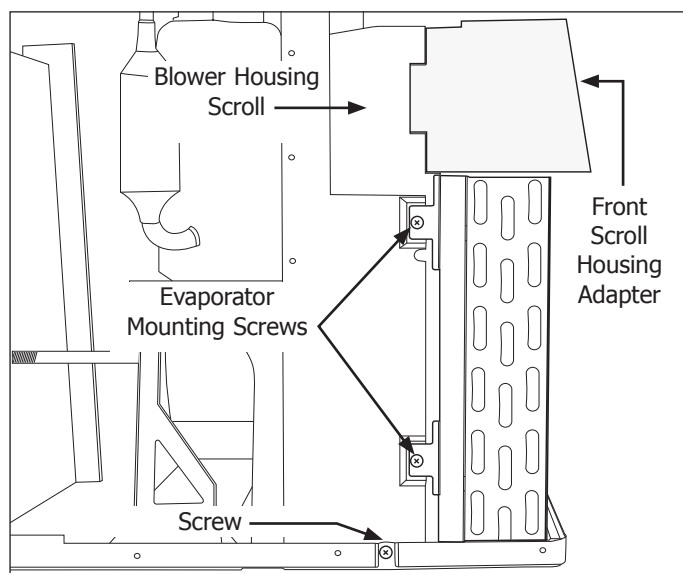

Figure 4-84.
14. From the sides of the base tray remove the screw securing partition to base tray. (See Figure 4-84)